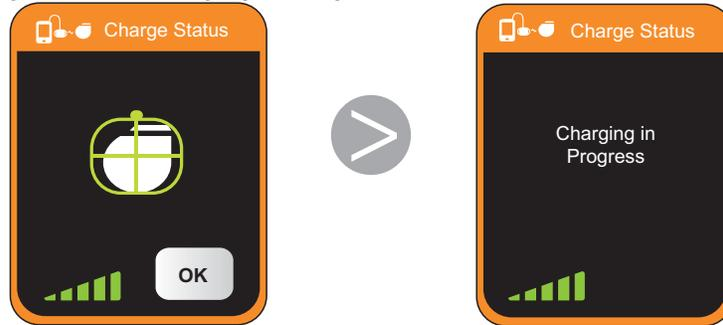

Figure 56. Stimulator charging in progress
8. Maintaining the charging paddle position, tighten the belt or press the charging paddle with the adhesive patch securely to your skin. Tap **OK** on the Charge Status screen (Figure 56). A Charging in Progress screen appears.